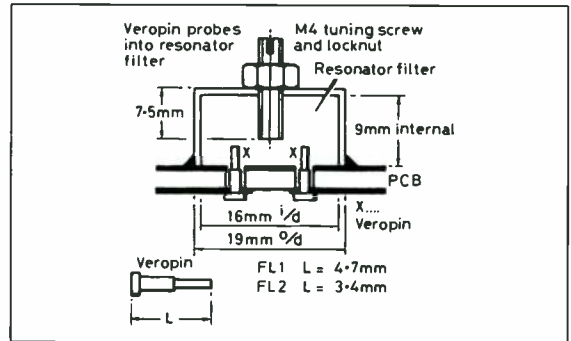

Fig 9.39. Filter coupling probes etc
1. Preset the FL1 and FL2 tuning screws as shown in Fig 9.39. Note that the 7.5mm dimension shown is the length of screw protruding from the locknut.